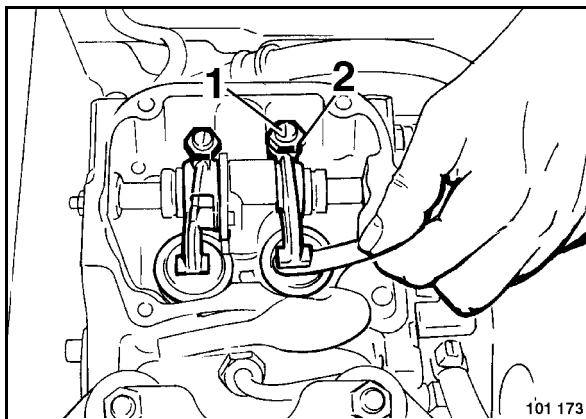

Fig. 60
- Slightly slacken the counter nut 2 (Fig. 60).
- Adjust setscrew (1) with a screwdriver, until the feeler gauge can be inserted and pulled out with little resistance after retightening the counter nut.